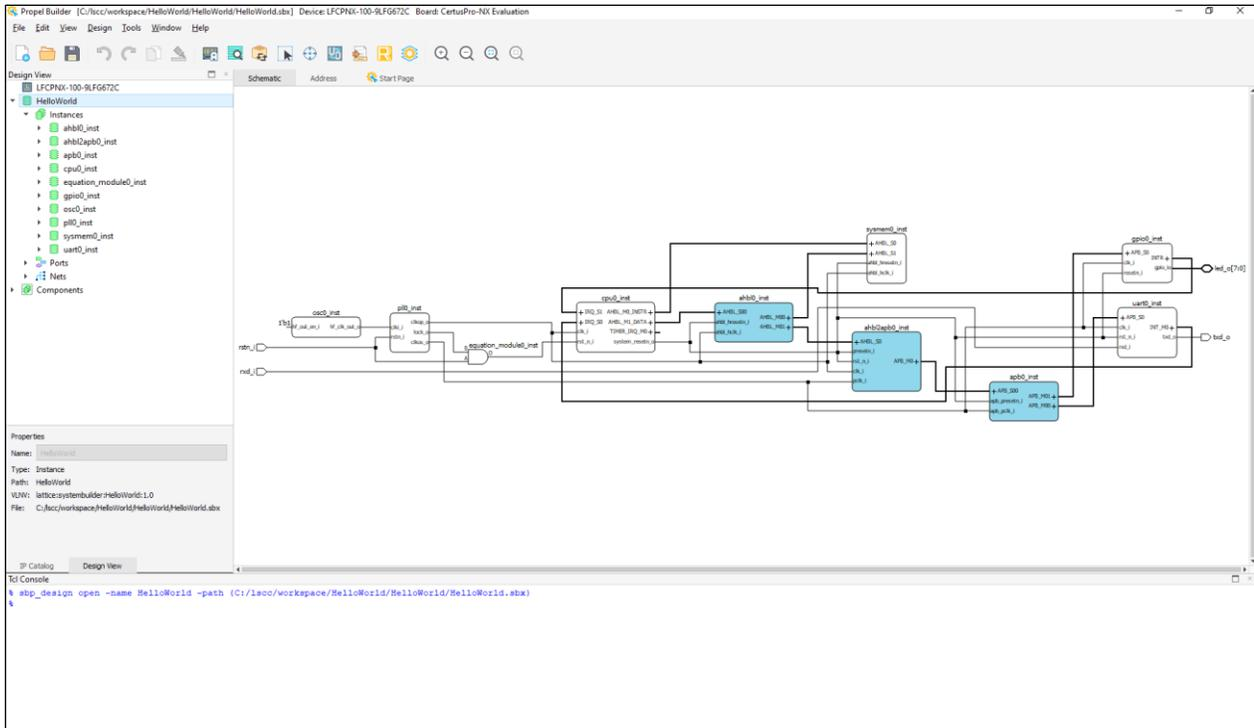

Figure 2.8. Propel Builder GUI showing HelloWorld Template SoC Project
- Click **Finish**. Propel Builder GUI opens (Figure 2.8).